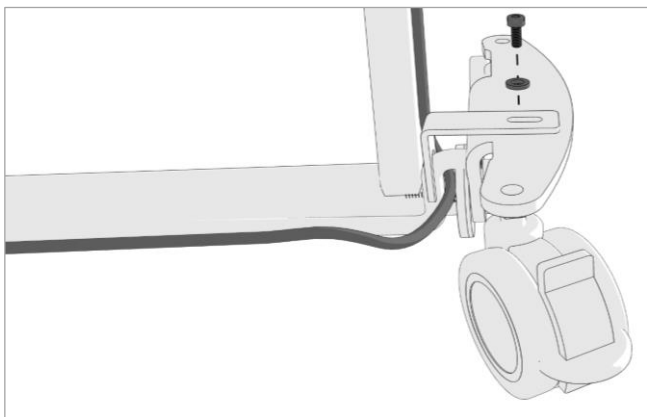

Figure 8.16
5. Using the 4mm Allen Key secure the 2 x M4 x 12 bolts on both sides, ensuring a washer is underneath the head of the bolt. As show in Figure 8.16.